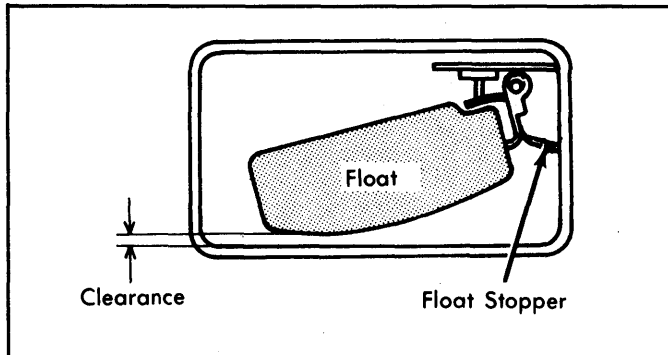

Fig. 5: Float Drop Adjustment
1) Remove carburetor from engine. Turn carburetor to its normal upright position. Allow float to lower by its own weight and measure clearance between bottom of bowl and float. See Fig. 5.